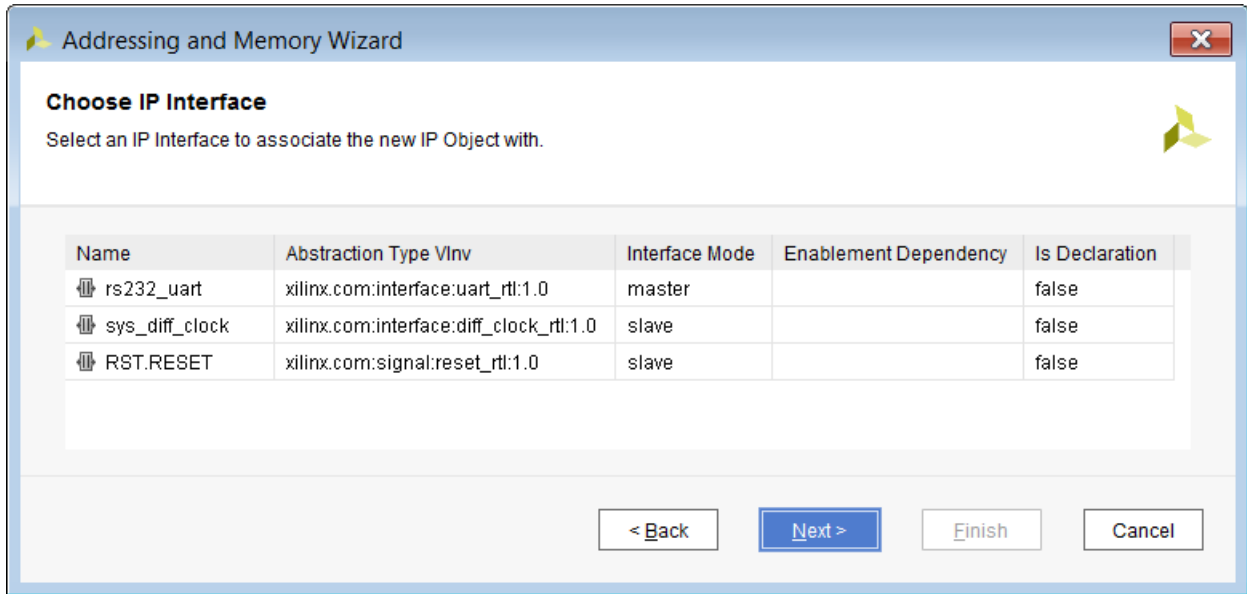

Figure 4-30: IP Addressing and Memory Configuration Wizard - Choose IP Interface
3. In the Choose IP Interface page, shown in Figure 4-30, select the interface to add a memory map, and click **Next**.